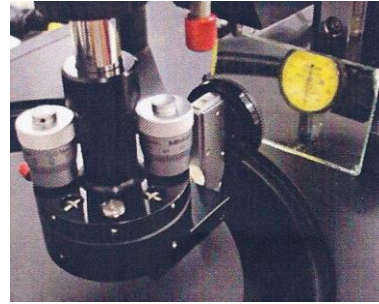

Figure 9: Mirror positioned at the 12 o'clock equivalent position.
15. A mirror is supplied in the accessory kit to help see the indicator face when it is at the 12 o'clock position facing away (Figure 9)